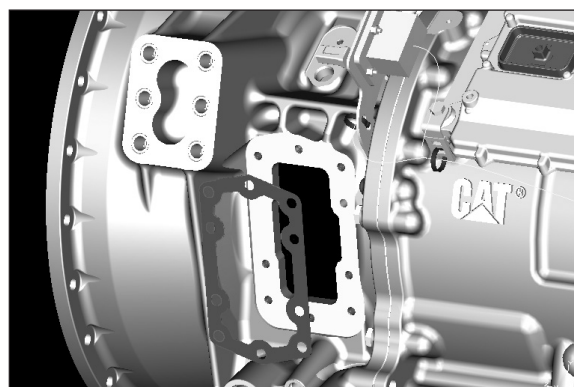

Figure 31
2. Remove the gasket and clean the aperture surface (**Fig. 31**).